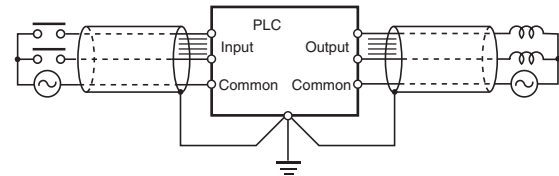

Figure 14. Shield Cable Grounding
- (2) The panel which contains the Controller must be insulated from other electrical devices. This is to prevent the effect of the leakage of current from other electrical devices.
- (3) When there is high frequency equipment nearby, please be sure that the panel which holds the Controller is grounded, in addition to the high frequency equipment.
- (4) When grounding the shield conductor in the event of shielded cable used in the wiring of input and output, connect the shield near the Controller to the enclosure ground terminal, as shown in Figure 14. For communication cables, please be sure to maintain shield processing in the communications unit manual.